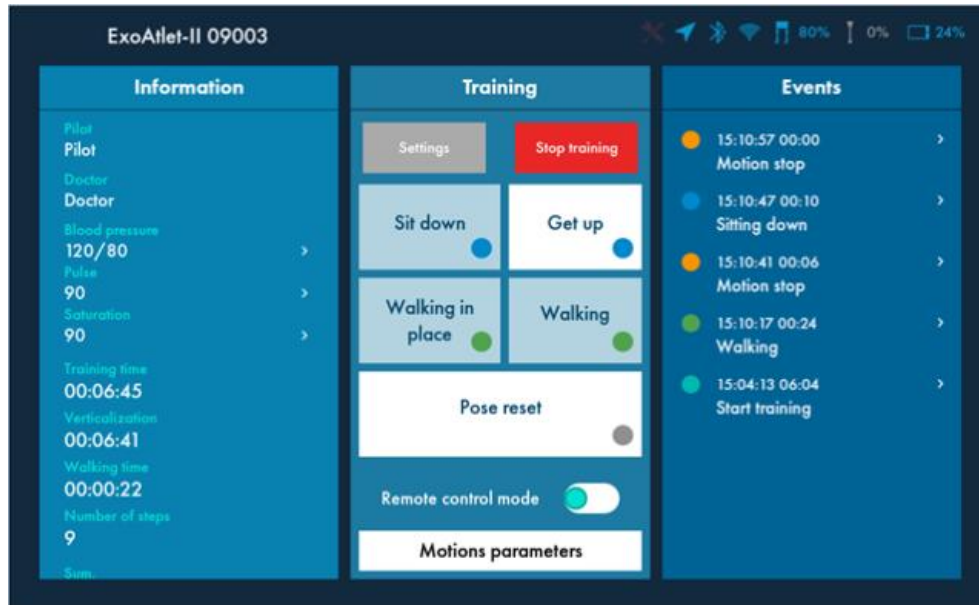

Figure 54
- ② Sitting pose – the pose when limbs of the exoskeleton are in standard sitting position. In this pose motions “Get up” (more details in 8.2.2.3.2) and “Pose reset” (more details in 8.2.2.3.5) are available (see Figure 54).